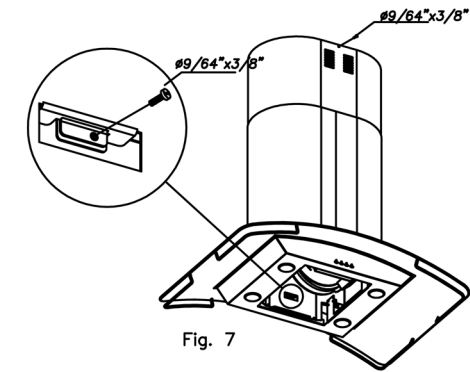

Fig. 7
- Fix the lower exterior tube to the canopy in the lower part with two screws (Fig.7)